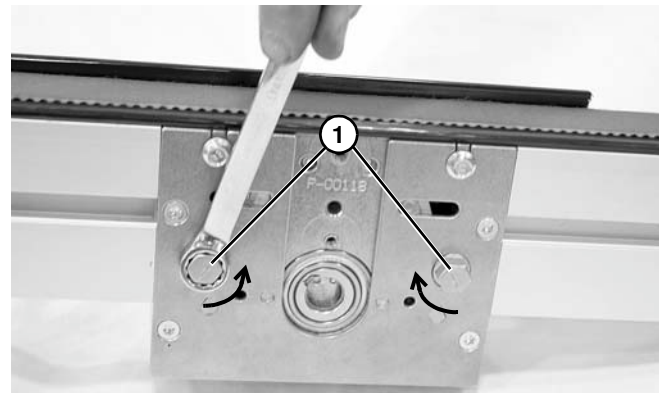

Figure 12
1. Rotate tensioner cams (**Figure 12, item 1**) in the direction indicated to release tension on belt.